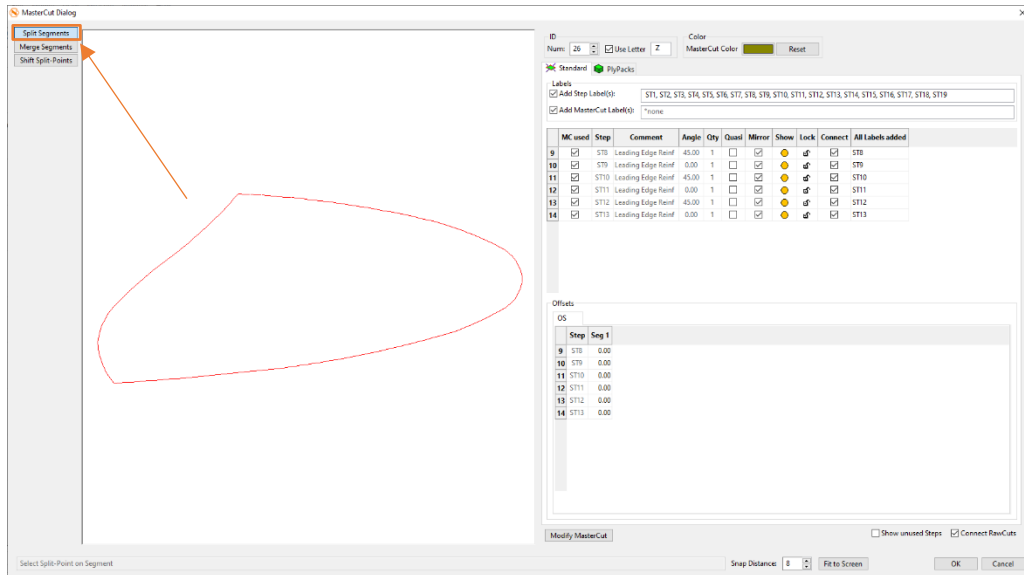

Figure 290
86. On the top left corner of the dialog you will find the splitting tool **Split Segments** as indicated in Figure 290.